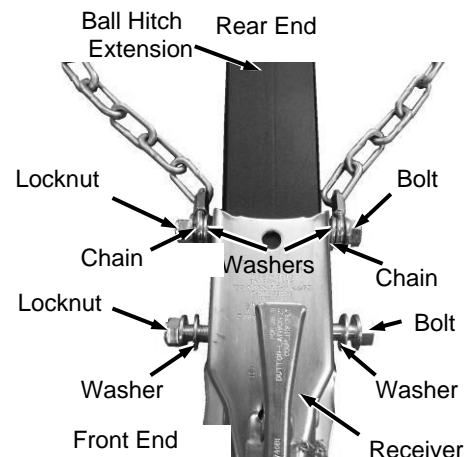

Figure 26
2. Position the Receiver on the Ball Hitch Extension from the kit and secure the Front End loosely by hand with a 1/2-13 x 5 in Flanged Bolt, Flanged Locknut, and two Washers (Figure 26).